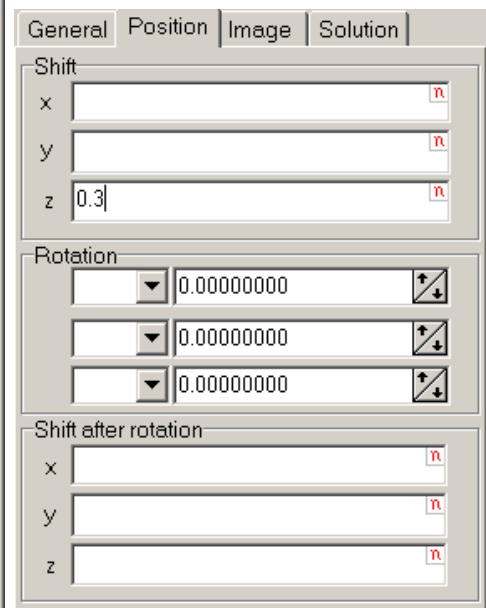

Figure 2.7
The **Position** tab (see Fig. 2.7) is used for setting position and orientation of the elastic body. These transformations influence on the representation of the elastic body in the animation window of the wizard. Flexible body in the starting position coincides with X-axis that is not really comfortable to watch. Now we will shift the beam along Z axis with 0.3 m.
5. Set **Shift/z** to **0.3**, see Fig. 2.7.